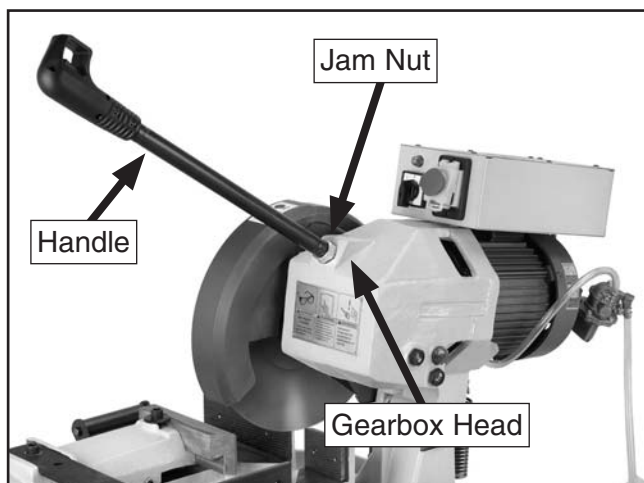

Figure 14. Installing handle.
5. Attach the handle by threading it into the gearbox head, then tightening the jam nut, as shown in **Figure 14**.